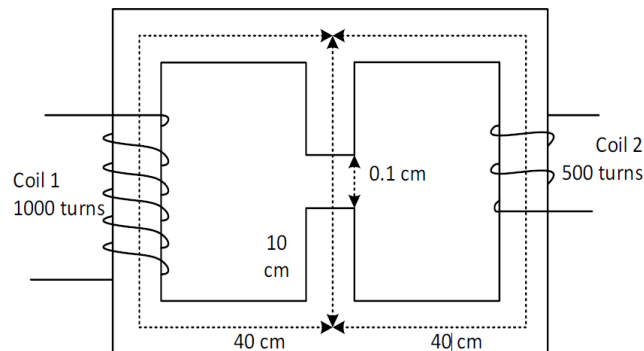

Fig. 4
4. A magnetic circuit consists of an iron core of relative permeability 2500 and has 1mm air gap as shown in Fig.4. Because of fringing effects, the effective area of the air gap is 5% larger than their physical size. With only coil-1 of 1000 turns energized by 3A, calculate the flux in air gap. The flux in gap is to be increased by 40% by a second coil-2 of 500 turns. Determine the necessary current and its direction. Cross-sectional area of iron is 20 cm2 throughout.